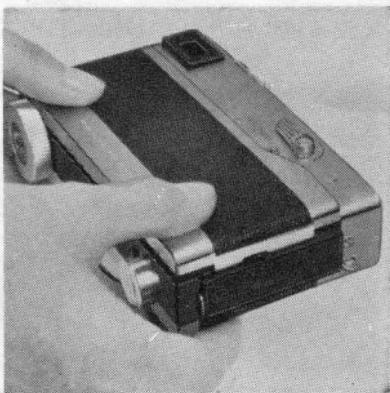

Fig. 8
- 7. Close the camera back firmly. (Fig. 8)